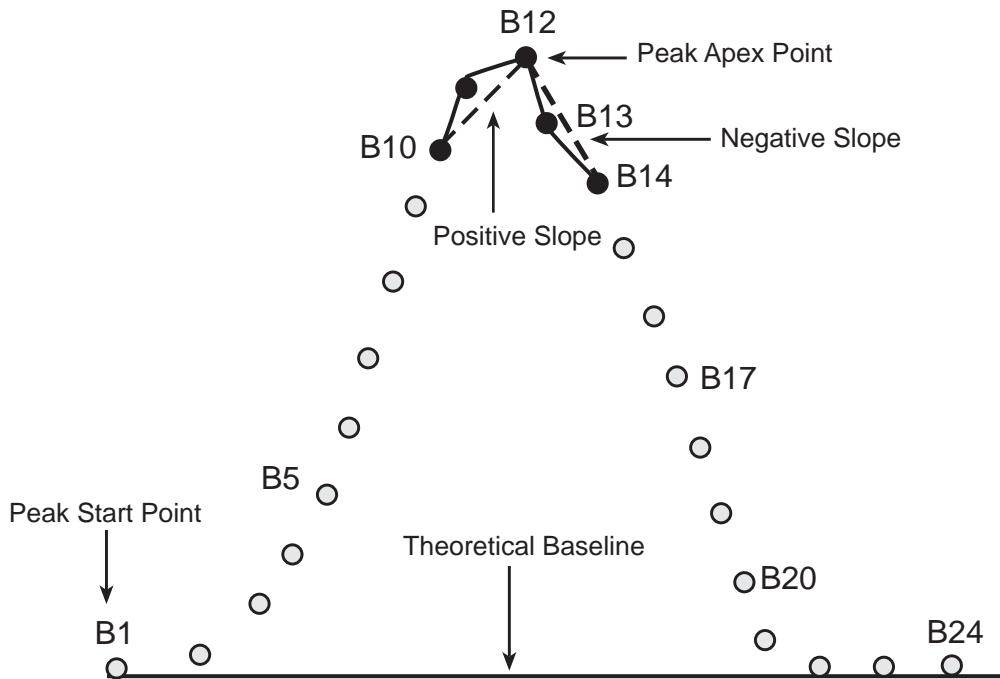

Figure 3-3 Determining the Preliminary Peak Apex
2. Analyzes the bunch where the slope change occurs (bunch B12 in Figure 3-3) and assigns a *tentative* peak apex to the data point within the bunch that is furthest away from the theoretical baseline.